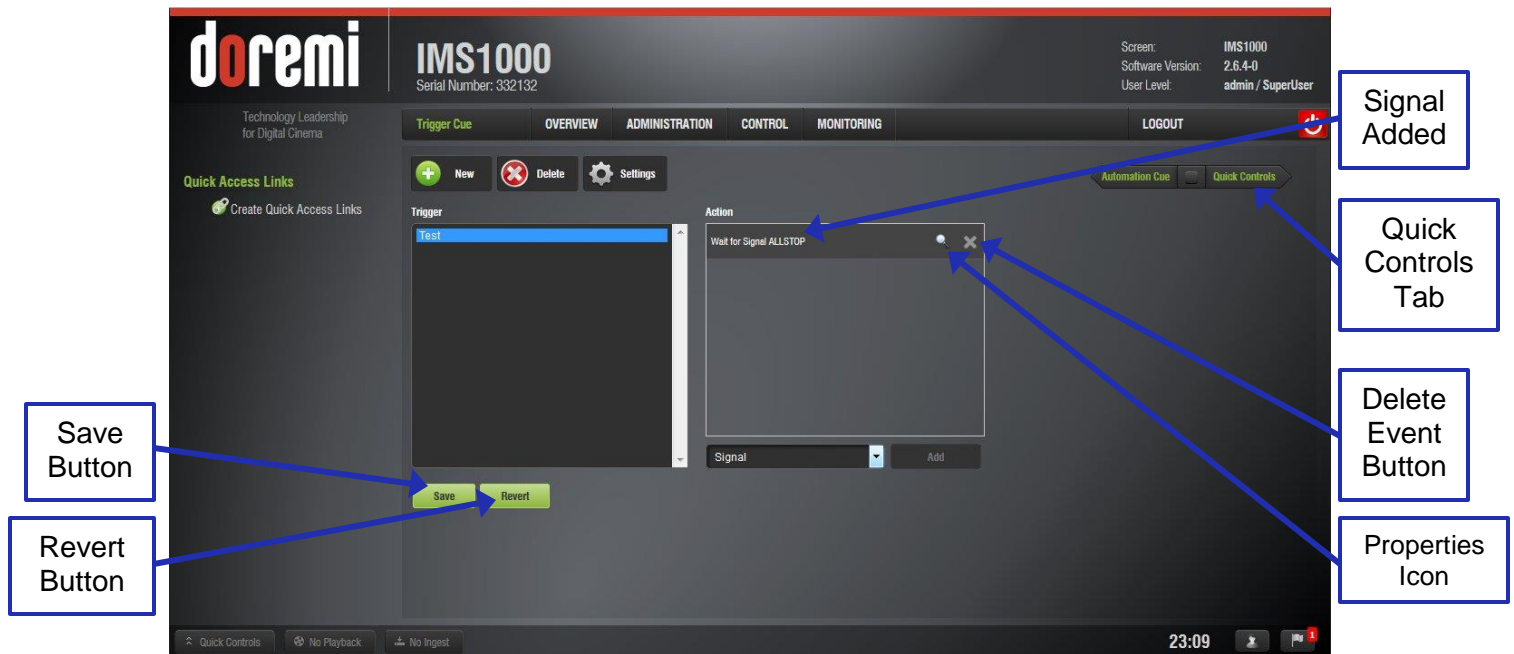

Figure 154: Signal Added
- Click Ok when finished and the connected Signal event will appear in the right part of the Editor tab (Figure 154).
To edit the event associated with the Trigger Cue, highlight it in the Trigger Cue Actions window. Click on the Properties icon that appears to edit the event (Figure 154).
To delete the action associate with the Trigger Cue, highlight it in the Trigger Cue Actions window. Click on the X that appears to delete the event (Figure 154).
- Repeat the Trigger Cue creation operation for all Trigger Cues that are created and click the Save button (Figure 154). Clicking the Revert button before saving will cause the unsaved information to be lost (Figure 154).
To access the Quick Controls tab, go to Administration → Macro Editor → Quick Controls. Alternatively, if you are in the Macro Automation tab or Trigger Cue tab, you can access the Quick Controls tab by clicking on the Quick Controls arrow on the right side of the GUI (Figure 154).